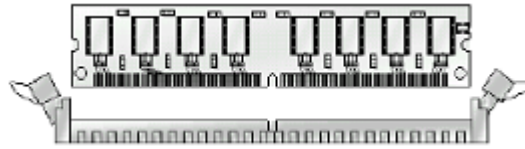

Figure 4-6: DIMM Socket Open
Step 1: Pull the two white handles on either side of the DIMM socket down (**Figure 4-6**).